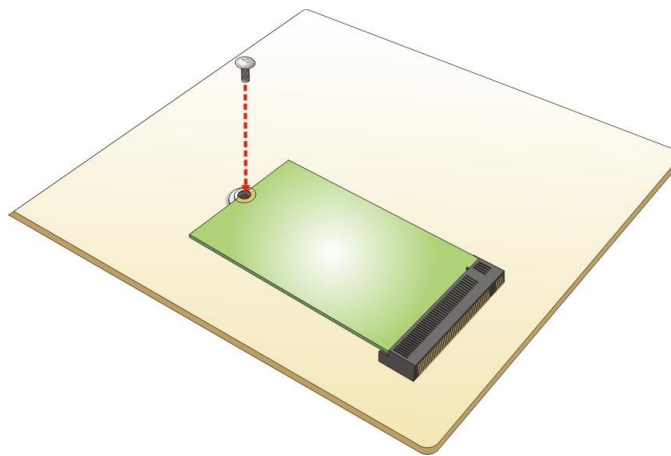

Figure 4-2: Securing The M.2 Module
Step 4: Secure the M.2 module with the previously removed retention screw (Figure 4-2).